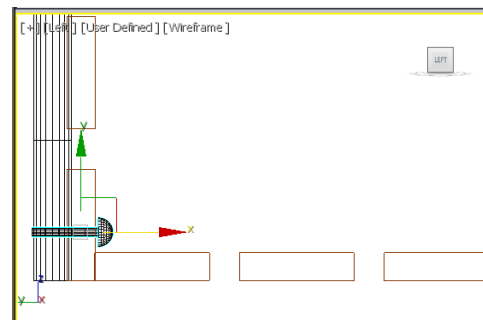

Figure 2-79 The *rivet001* group in the Left viewport
13. Choose the **Zoom Extents All** tool and move *rivet001* in the Left viewport to visualize it properly, as shown in Figure 2-79.